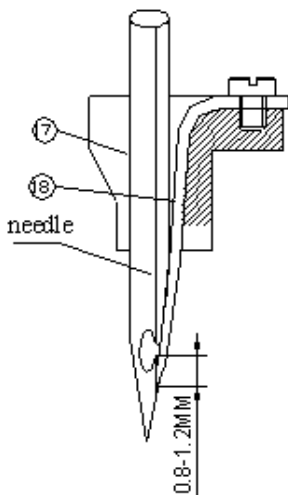

FIG. 11
The height of the tip of the tongue (18) should be set in relation to the needle. The height is correct when the tip of the tongue closes the space between the two hooks of the needle, extending 0.8-1.2 mm (depending on the gauge of the needle) beyond the tip of the lower hook, and the bar is at its U.D.C. FIG. 11.